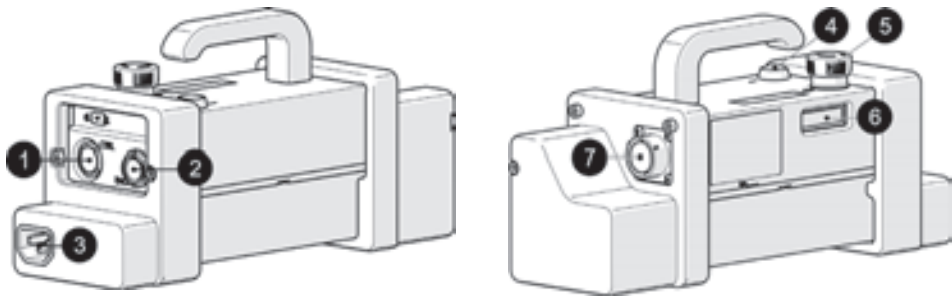

Figure 4-29 Power controller
The SteerROVER power controller converts power from a 100–240 VAC, 50/60 Hz, 3.5 A power source to 36 VDC, 8.9 A (see Figure 4-29 on page 113). A start/stop safety circuit and physical ON and OFF push-buttons are integrated into the supply.
The following list describes the functions of the components of the power controller using Figure 4-29 on page 113 as a reference.
The power connection [(3) in Figure 4-29 on page 113] of the power controller is used to connect the power controller to a suitable 100–240 VAC, 50/60 Hz grounded power source capable of supplying a minimum of 5 A.